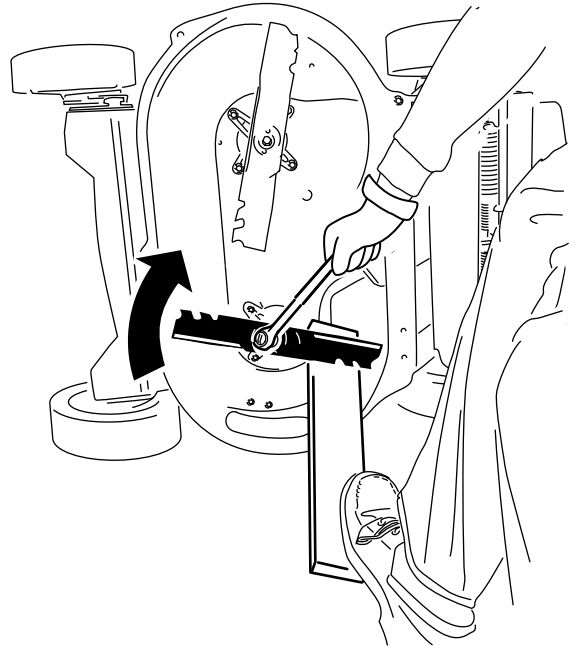

Figure 42
2. Steady each blade with a board and turn the blade bolt clockwise with a torque wrench as shown in Figure 42; torque the blade bolt to 82 N·m (60 ft-lb).